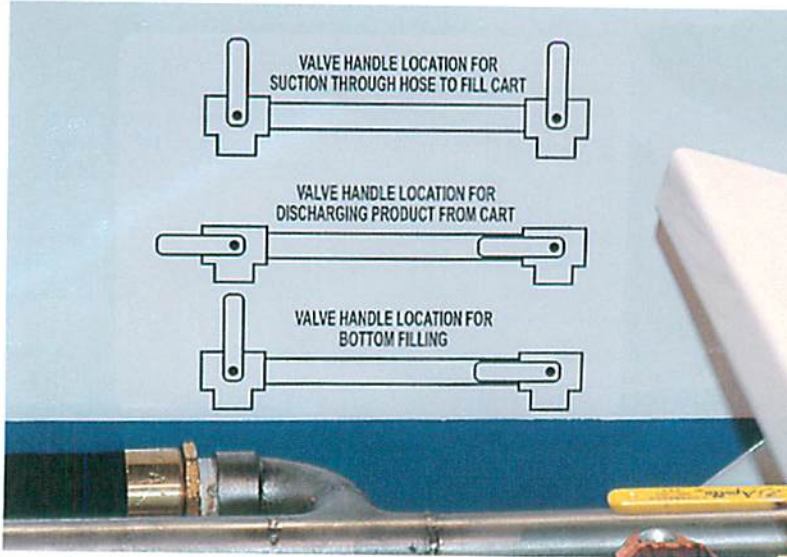

Figure 4.1
- 4 Set directional control valves to "Bottom Filling" configuration. See Fig. 4.1 (left handle forward, right handle points left)
- 4 Set directional control valves to "Bottom Filling" configuration. **See Fig. 4.1** (left handle forward, right handle points left)
- 4 Configure directional valves in the “Bottom Fill” position. See Fig. 4.1
- 4 Configure directional valves in the “Through Hose to Fill Cart” position. (both handles point forward) See Fig. 4.1